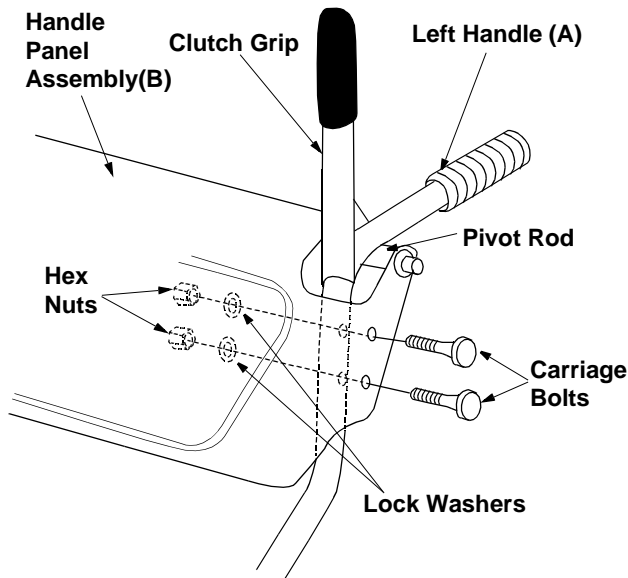

Figure 2
- Lower left and right handles (A) down through handle panel (B) between the pivot rod and the clutch grips and attach using hardware B. See Figure 2.